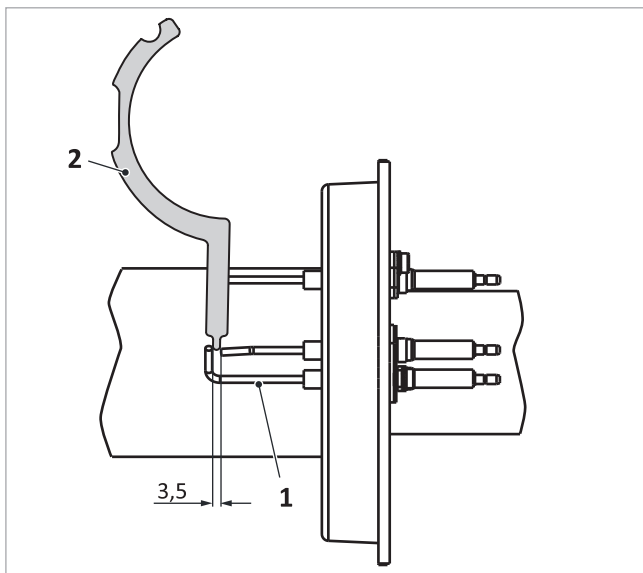

Fig. 138: Clearance from electrode to gauges on the ignition electrode
1. Check the clearance of the ionisation electrode using an electrode gauge → fig. 138 (2) (if necessary, correct it through careful bending).
- Electrodes below one another → fig. 138 (1): 3.5 mm